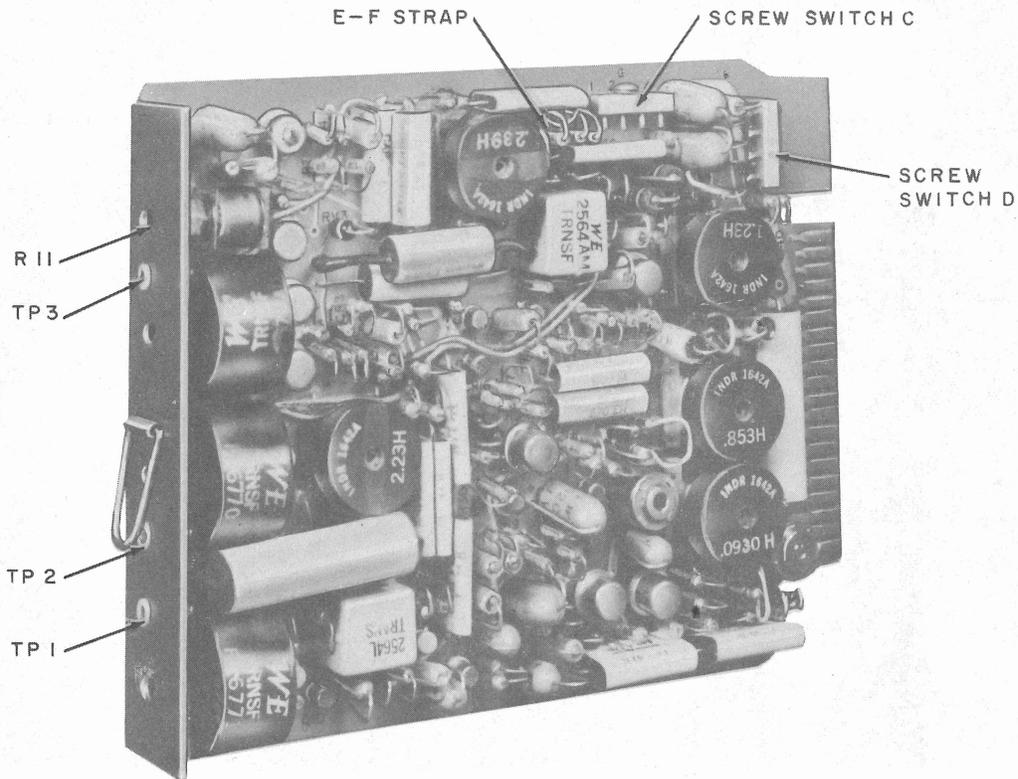

Fig. 10—Data Set 108A-Type—Location of Test Points and Screw Switches
- 7.02 Connect terminals + and - of portable station test set TTS-28 to TP 1 and TP 2 of the data set (Fig. 10). Set FUNCTION switch of TTS-28 to DBM 900Ω TERM O position.